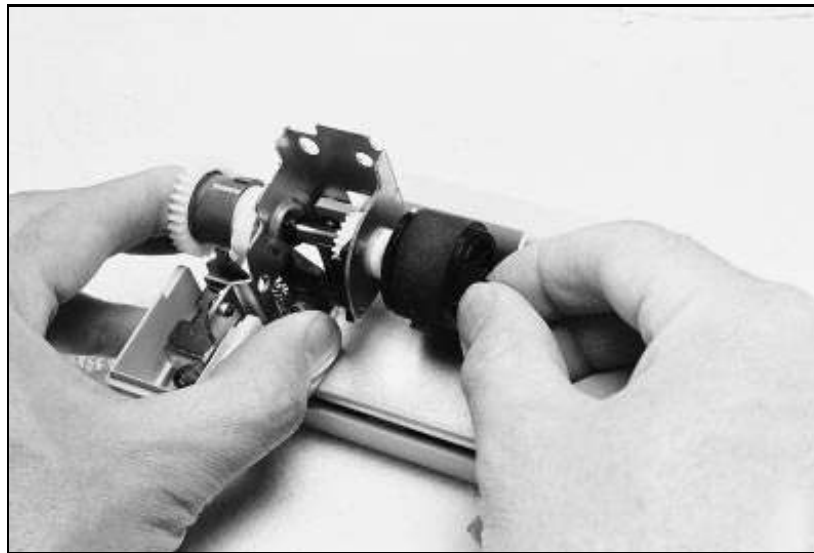

Figure 20 Replacing the Pickup Roller
- 7.** To remove the roller from the pickup assembly, grasp the tabs on the right end of the roller and slide it to the right (shown in Figure 20).